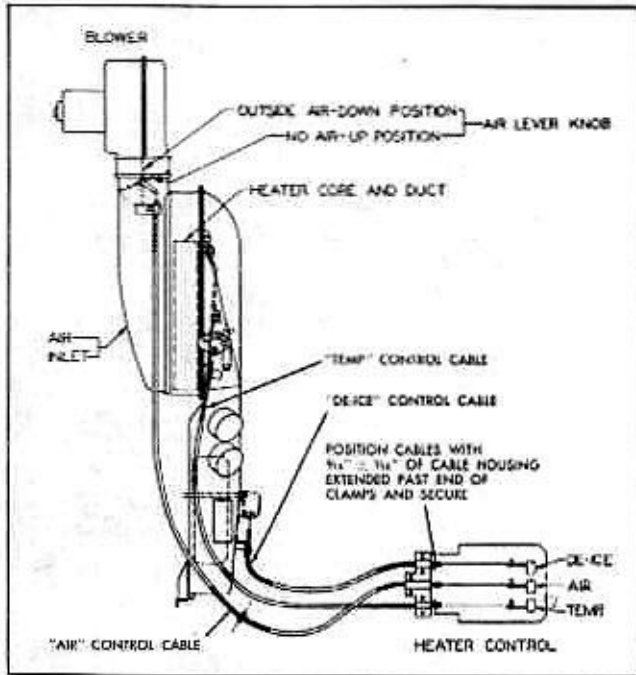

Fig. 2-23 Control Cables—Location and Identification
5. Replace by reversing the above procedure positioning the cable housing to extend  $\frac{3}{16}$ "  $\pm \frac{1}{16}$ " beyond the housing clamp at the control panel. See Fig. 2-23.
5. Replace cable by reversing the above procedure, positioning cable housing to extend  $\frac{3}{16}$ "  $\pm \frac{1}{16}$ " beyond the housing clamp at the control panel. See Fig. 2-23.
4. Replace by reversing the above procedure positioning cable housing to extend  $\frac{3}{16}$ "  $\pm \frac{1}{16}$ " beyond the housing clamp at the control panel (Fig. 2-23).